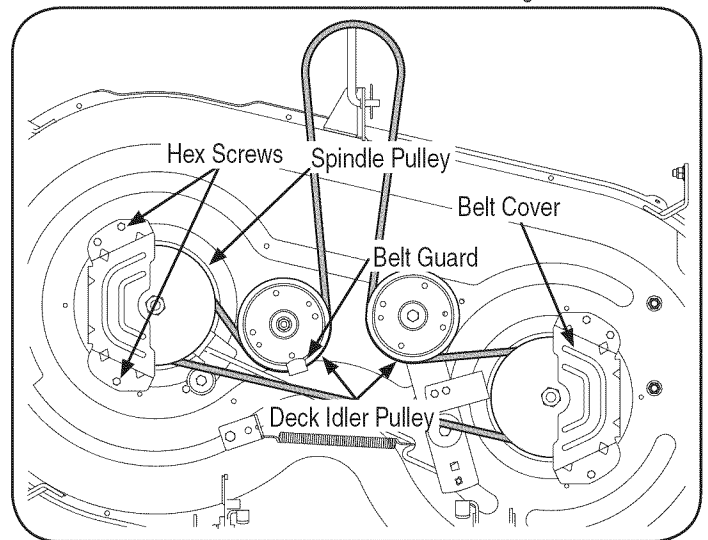

Figure 14
2. Remove the belt covers from the outer spindles by removing the hex screws that fasten them to the deck. See Figure 14.
4. Carefully remove the deck belt from around the two spindle pulleys and the two deck idler pulleys. See Figure 14.